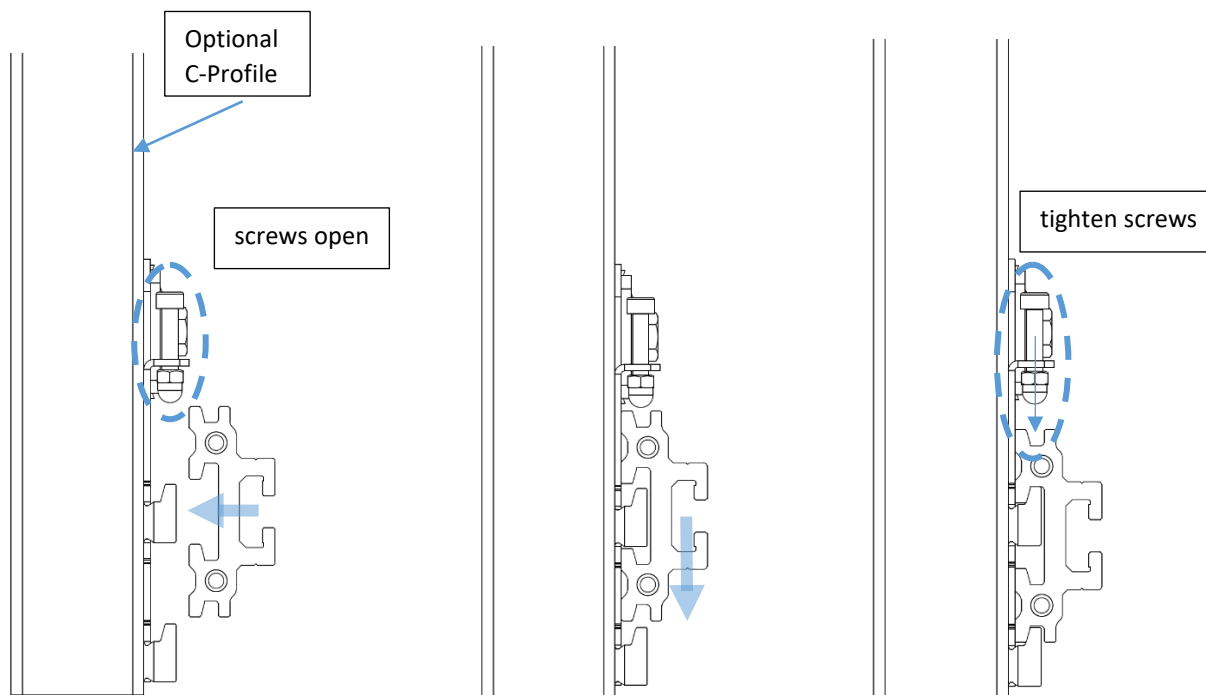

Figure 10 Side view inserting profile to wall mounting plate (step by step from left to right)
Step 1: Start with mounting the lowest row of the wall mounting plates together with the lowest profiles at your desired height. To insert the profiles to the wall mounting plates, unscrew the screws indicated with a blue circle in Figure 10 in the wall mounting plate and slide the profile from the top into the hooks of the plate. Tighten the M5 screws with the 4 mm Allen key so that the profile is secured.